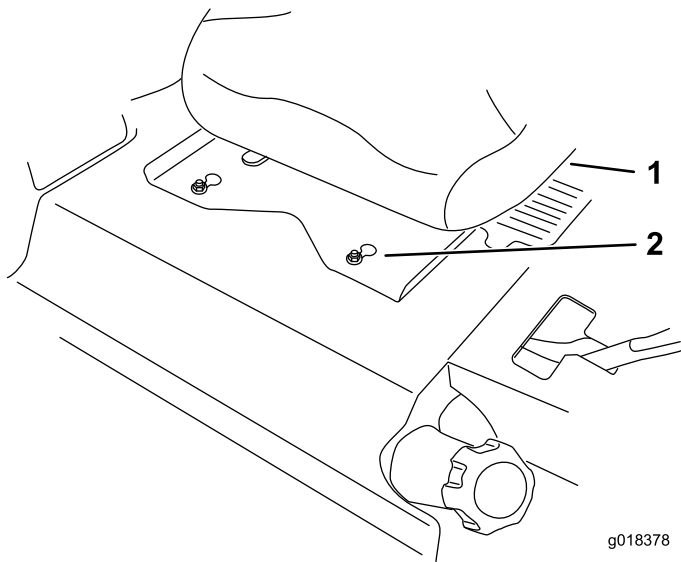

Figure 62
- Slide the seat and seat plate forward to allow the front nuts to go through the key hole (Figure 62).